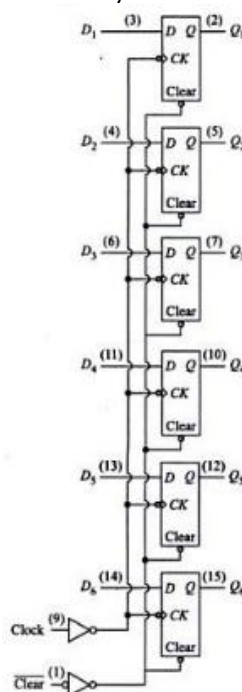

Figure 9.13: 74174
- Here, data can be shifted either into or out of the register in parallel (Figure 9.13).